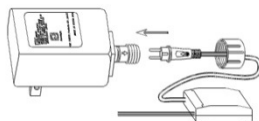

Fig. 2
- Fully insert the fitting into the Power Supply {Fig. 2}